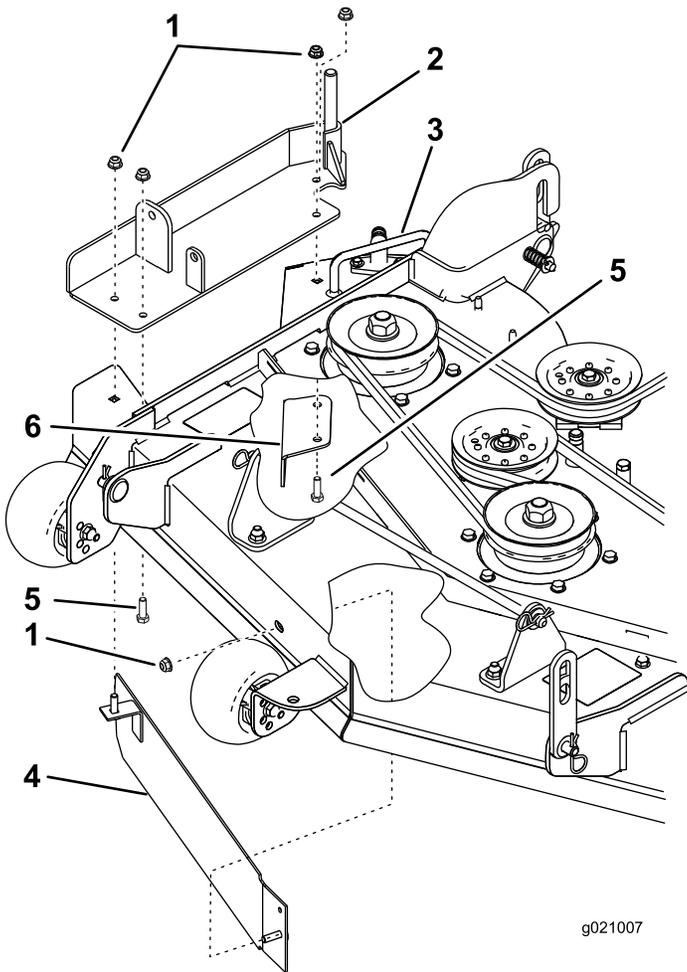

Figure 4
2. Install the baffle to the front of the mower deck with a flange nut (5/16 inch) (Figure 4).
3. Install the blower support and existing cutoff baffle to the top of the mower deck with 3 bolts (5/16 x 1 inch) and 3 flange nuts (5/16 inch). Refer to Figure 4
- Using the vertical stud in the baffle, install the blower support to the mower deck with a flange nut (5/16 inch) (Figure 4).